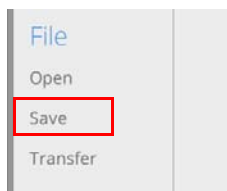

FIG. 41 File → Save
1. In the Side menu, click **File > Open** (FIG. 41):
1. In the Side menu, click **File > Save** (FIG. 41):